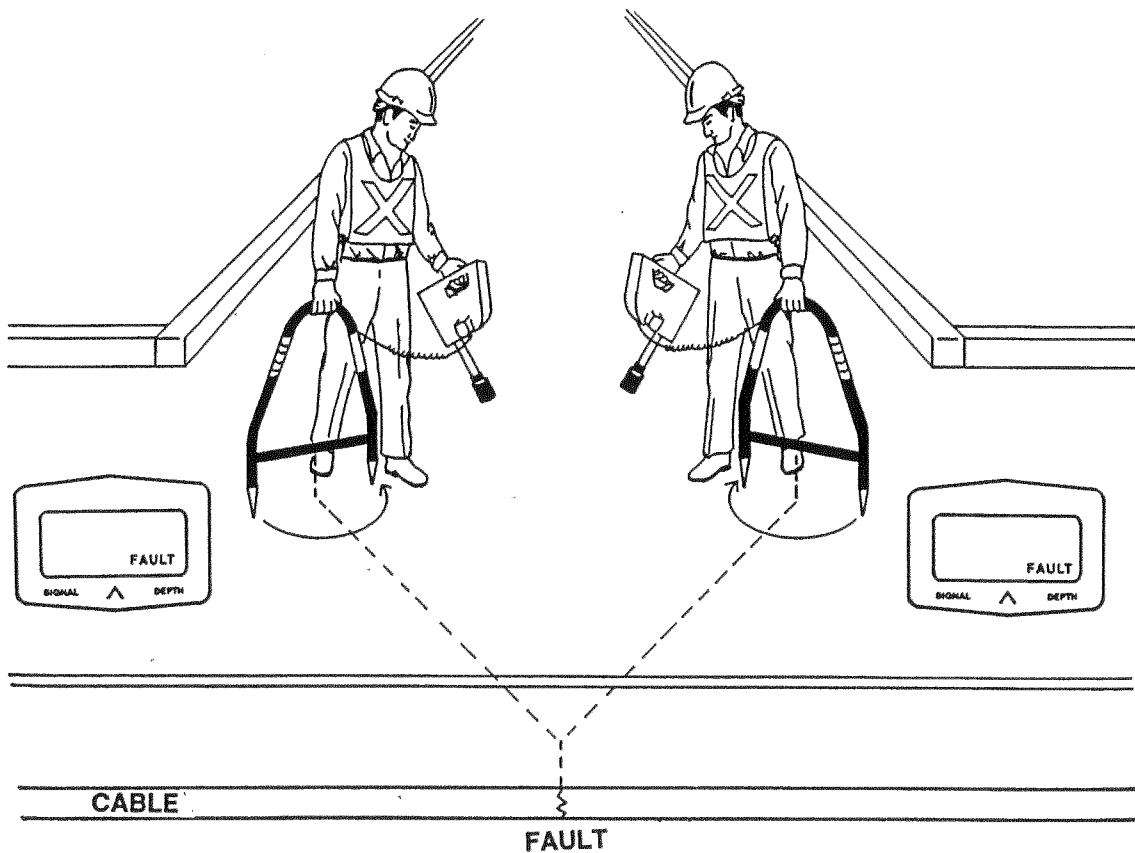

Figure 13: Cable Fault Location by Triangulation
8. When the cable path is beneath a paved surface, walk parallel to the cable path; arrow reversal will occur when the earth contact ground frame is directly perpendicular to the ground fault. A triangulation method may be used by moving forward several yards and rotating the earth contact ground frame a few degrees until the arrows disappear. A line marked perpendicular to the frame will intersect the cable path at the fault. Repeat this procedure by backing up several yards and the fault will be at the intersection of the two lines drawn (Fig. 13).